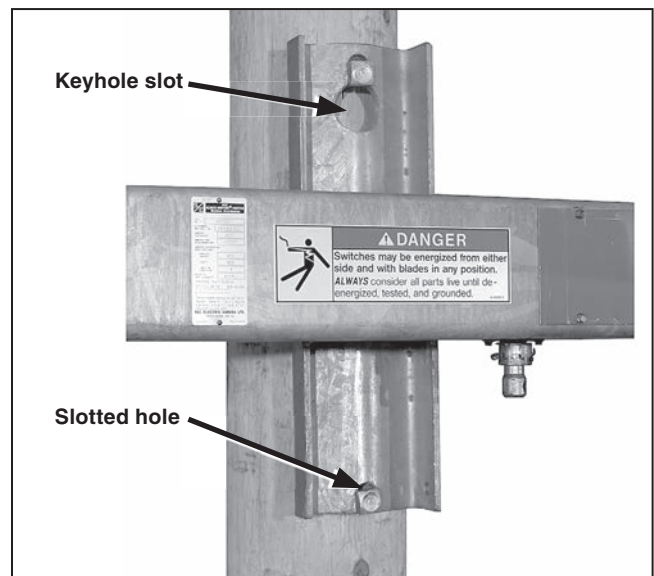

Figure 17. Guide the switch.
**STEP 14.** Guide the switch so the through-bolt heads enter into the keyhole slot and open slotted hole in the switch base. See Figure 17.